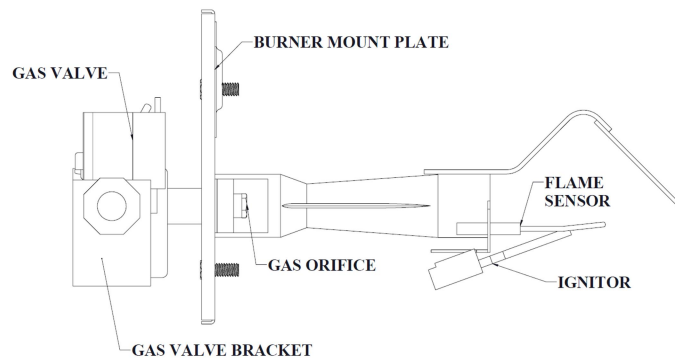

Figure 8: Burner Assembly
7. Remove the sixteen (16) screws from the burner mounting plate and remove the burner assembly. Refer to Figure 8.
8. Remove the ten (10) screws from the burner mounting plate and remove the burner assembly. Refer to Figure 8.